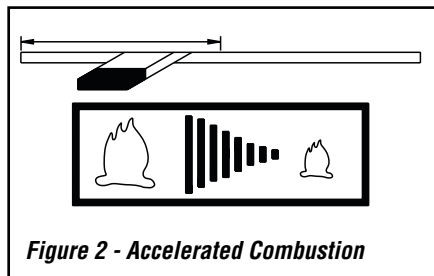

Figure 2 - Accelerated Combustion
Step 2. Completely open the air control level. See *Figure 2*.